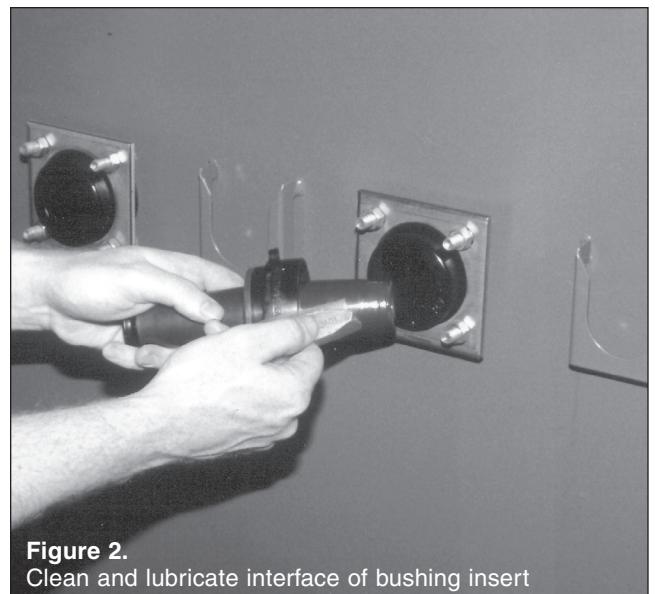

Figure 2.
- Clean mating interface of bushing insert and apply a thin, uniform coating of silicone lubricant. (See Figure 2.)